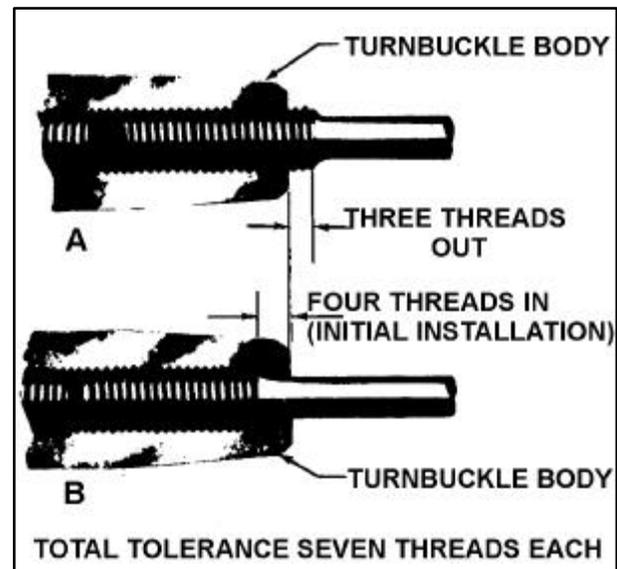

FIGURE 7-23. Turnbuckle thread tolerance.
**7-166. TURNBUCKLE INSTALLATION.** (See figure 7-23.) When installing cable system turnbuckles, it is necessary to screw both threaded terminals into the turnbuckle barrel an equal amount. It is essential that turnbuckle terminals be screwed into the barrel so that not more than three threads on the terminal are exposed. (See figure 7-23A.) On initial installation, the turnbuckle terminals should not be screwed inside the turnbuckle barrel more than four threads. (See figure 7-23B.)